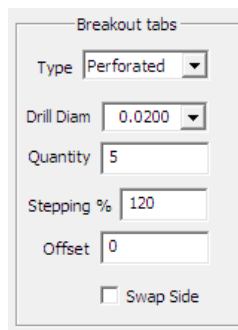

Figure 7
a) Set the parameters (Figure 7) for the break-out tab.